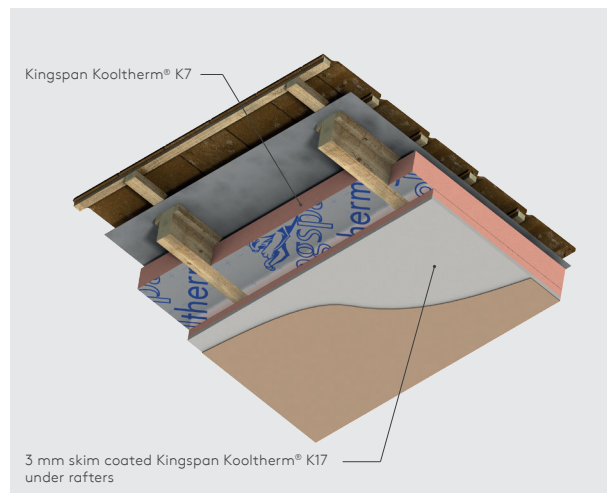

Figure 4 - Mechanically fixed to timber rafters with Kingspan Kooltherm® K17 Pitched Roof Board between rafters
- Sheets of Kingspan Kooltherm® K17 may be used to line ceilings (see Figure 4).
- Alternatively, where there are to be extensive heavy internal fittings, the construction outlined in Figure 4 can be adopted.